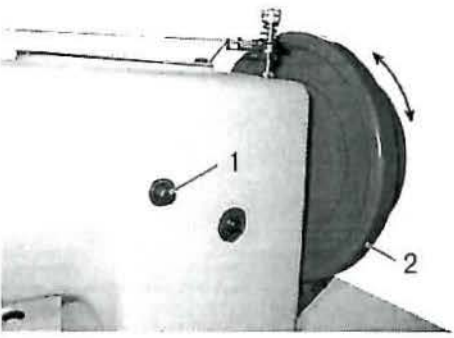

Fig.15
10.AJUSTMENT OF THE STITCH LENGTH (Fig. 15)